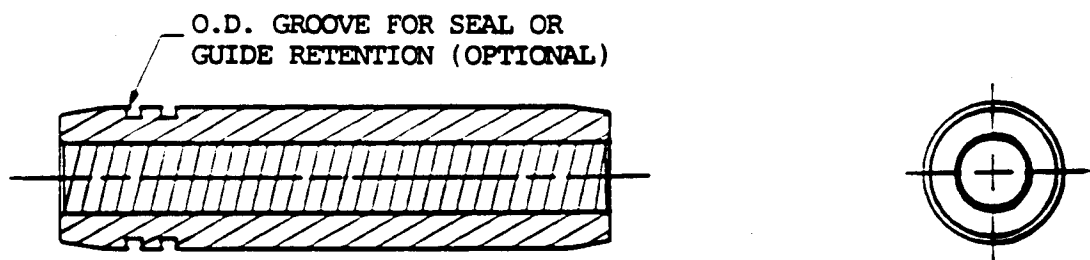

FIGURE 1B—HELICAL GROOVED BORE
3.1 Standard Valve Guides—Figure 1 shows the most common types of valve guides. Smooth bore guides are most common in passenger car operations. For heavy-duty engines, helical grooves are often machined, as shown in Figure 1B, into the valve guide bore for oil retention. However, heavy-duty engine manufacturers are abandoning this practice because of emission concerns. Figure 1C shows a guide with a retaining flange which can be used for location as well as retention. A typical valve guide installation showing the relationship of the valve guide to other components is illustrated in Figure 2.